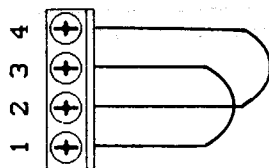

Figure 9
- e.) Install the connection cable to "Local End", and place an external loopback on the cable at "Remote End". Refer to figure 9 mark B.
- g.) Tag a short wire on pin #2 and pin #3 of RS-232C DB-25 on the "Remote End" converter. Refer to figure 9 mark C. Make sure that unit is powered on, and don't plug to any device.